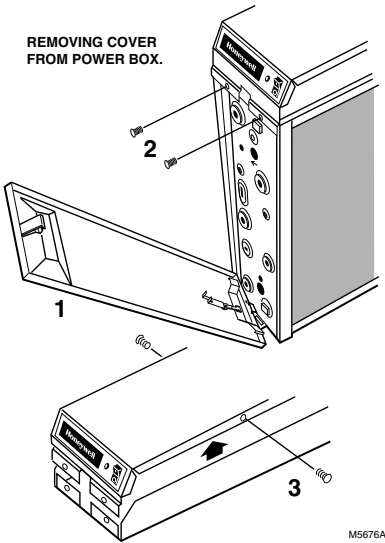

Fig. 1. Remove cover from power box.
- Open access door. See Fig. 1.